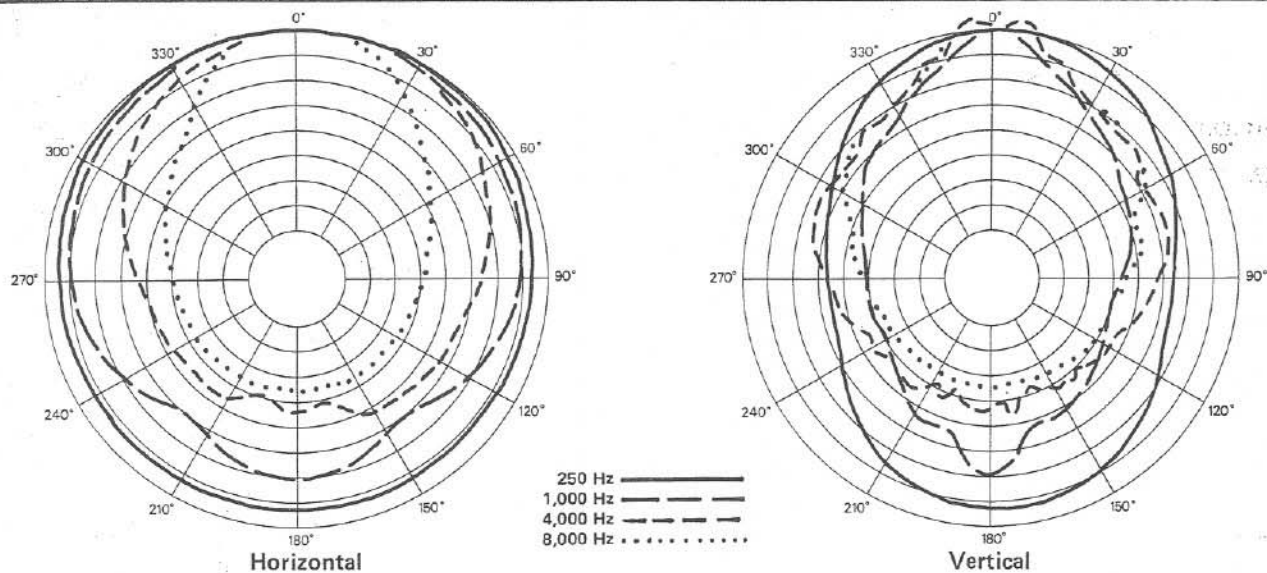
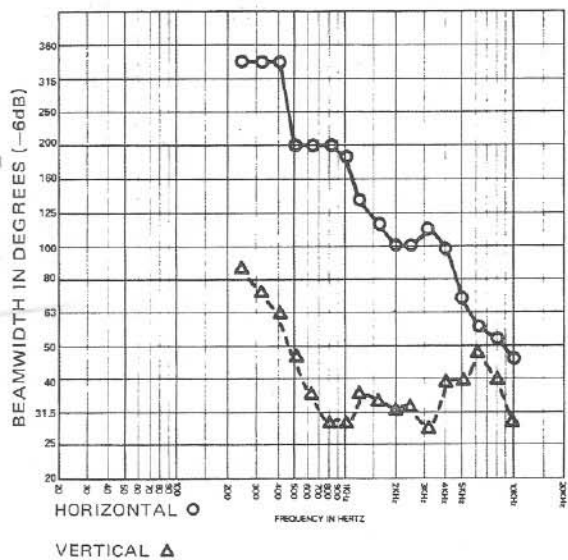
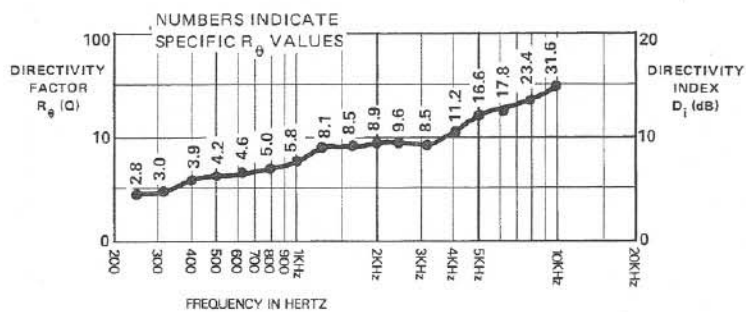

FIGURE 2 - Polars
FIGURE 3 - Beamwidth vs Frequency
FIGURE 4 - Directivity Di (dB)
Horizontal (see Figure 3):
Vertical (see Figure 3):
Directivity Factor $R_0(Q)$, 500 - 10,000 Hz Median (see Figure 4):
Directivity Index D_i , 500 - 10,000 Hz Median (see Figure 3):
The polar response of the system is shown in Figure 2. These polar responses were measured in an anechoic environment using 1/3-octave pink noise inputs. The frequencies selected are fully representative of the polar response of the system. Beamwidth of the system utilizing the complete 1/3-octave polar data is shown in Figure 3. R_0 (Q) and directivity index (D_i) are plotted in Figure 4.